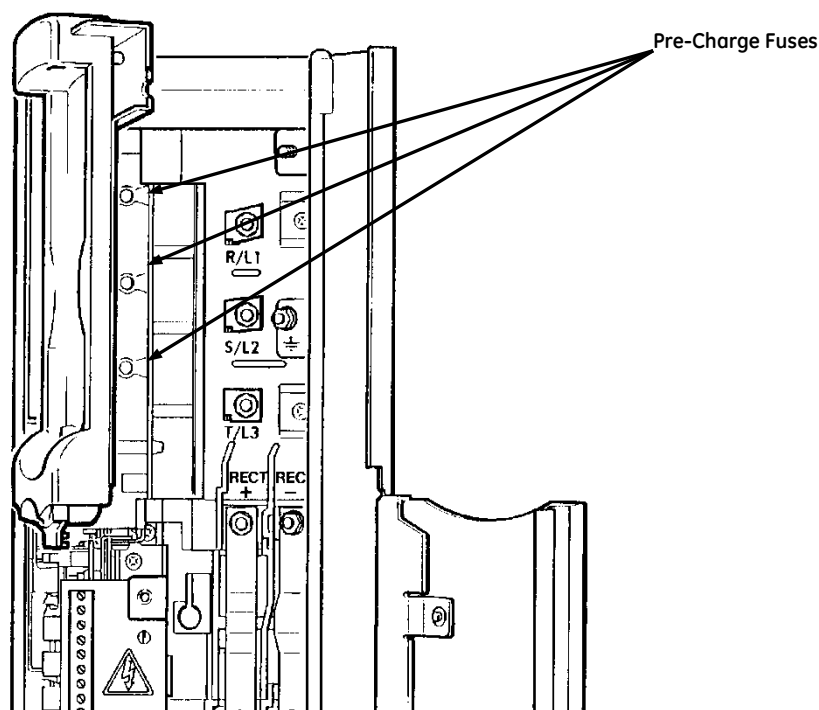

Figure 7-1. – Frame Size 3 & 4 Pre-charge Fuse Access
(See Figure 7-1, size 3 shown).
- b) Locate the three pre-charge fuses mounted on the PCB, exposed when the cover plate is removed. The PCB is similar to that shown for frame size 3 in Figure 7-1.
- e) On frame size 6 converters, re-fit the cover plate to the converter chassis and secure with the two M5 screws (Z).